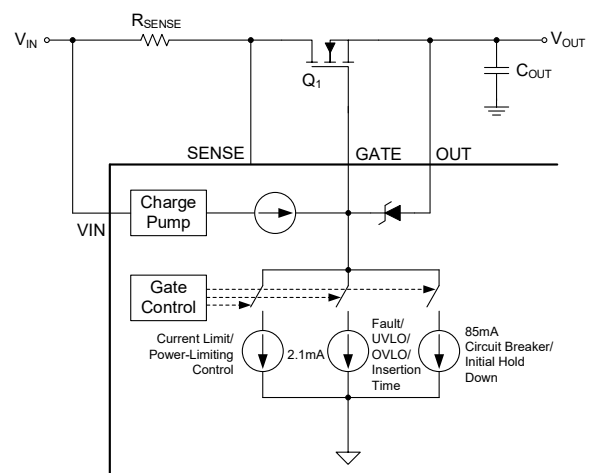

Figure 5. Gate Control
2.4µA current. When the TIMER pin is charged to 4V, and the device is still in current limit or power-limiting state, the load cannot be started properly. The GATE will continue to be pulled down by the 2.1mA until the end of the restart sequence (SGM25701A) or the start sequence initialization (SGM25701B). The GATE pin is also pulled down by the 2.1mA current source when the supply voltage is lower than EN/UVLO threshold voltage or above OVLO threshold voltage. Please refer to Figure 5 for the detailed structure.